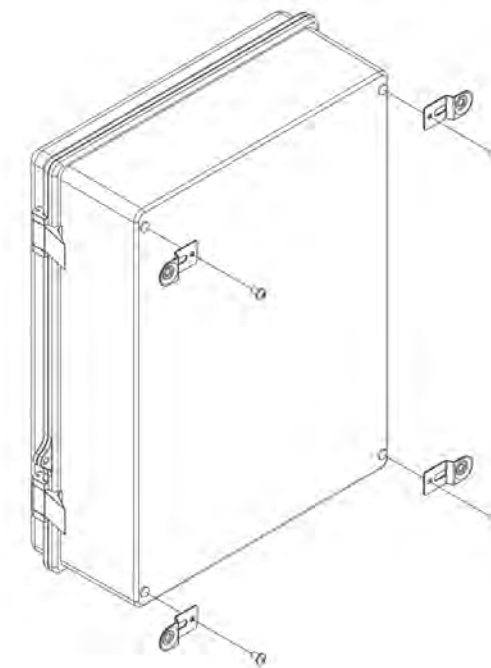

Figure 3
Step 4 – Attach the (4) four mounting feet to the back of the enclosure with the (4) four #10 - 32 screws provided (Figure 3).